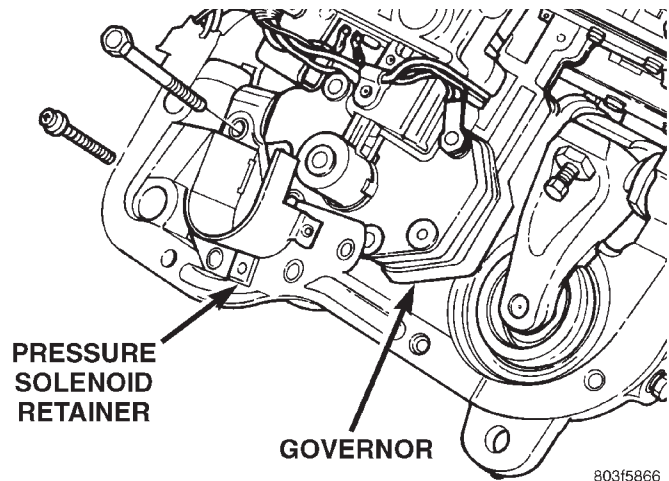

Fig. 62 Governor Body And Retainer Plate Attaching
(2) Remove screws attaching governor body and retainer plate to transfer plate (Fig. 62).